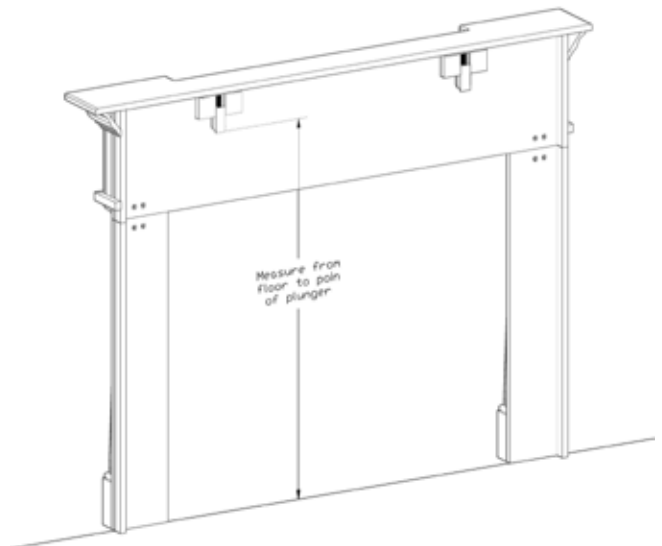

Figure 7
4. Place the mantel against the wall and measure from the floor to the point of the plunger in one of the TechMount brackets attached to the back of the mantel. Take the measurement when plunger is not compressed. See Figure 7.